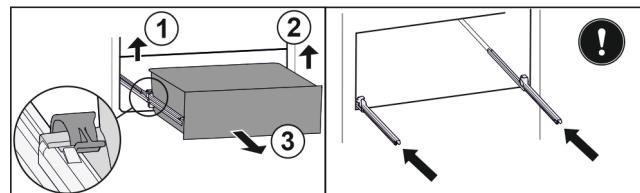

Fig. 119
- ▶ Lift left clamp and simultaneously pull drawer forwards on the left. Fig. 119 (1)
- ▶ Lift right clamp and simultaneously pull drawer forwards on the right. Fig. 119 (2)
- ▶ Remove drawer to the front. Fig. 119 (3)